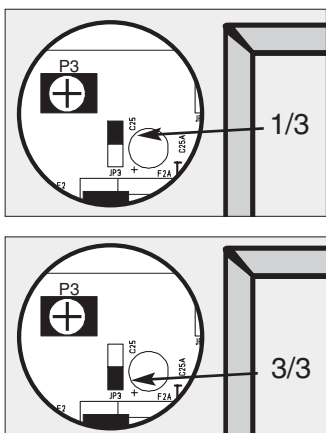

Fig. 14
- JP3 : the spade connector (fig. 14) allows the gas rate to be reduced to 1/3 performance by positioning spade across pins as shown (fig. 14). Full performance across pins as shown (fig. 14).